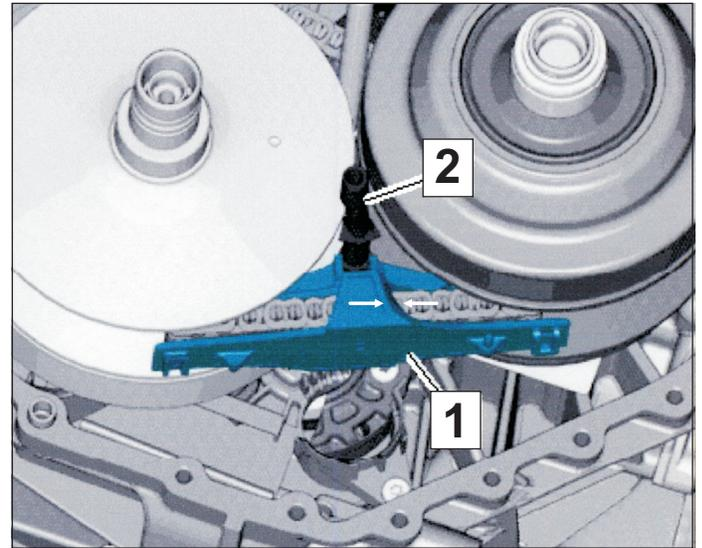

Figure 11
12. Mark the position of the guard rail (1) in relationship to the chain. Then, unclip the guide rail from the oil pipe (2) and detach both the rail and chain from the pulleys as seen in figure 11. *Caution is needed to ensure that the chain does not get kinked*
2. Clip the guide rail (1) onto the oil pipe (2) with chain inserted (refer to marking made upon removal to facilitate instillation (figure 11)).